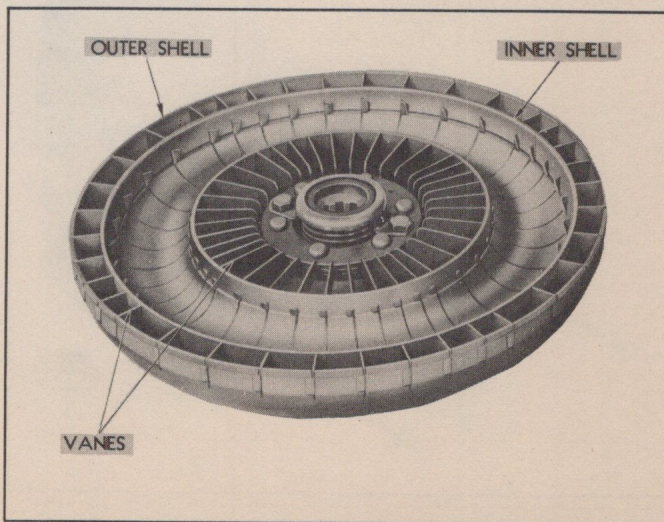

Fig. 187—Torus Assembly and Check Valve
1. Bend locks of torus check valve retainer away from the mounting bolts (Fig. 187).